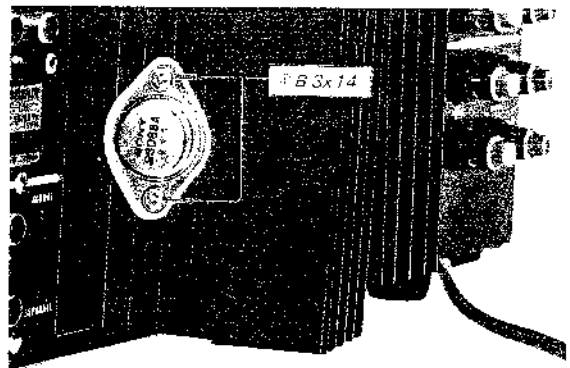

Fig. 2-9 Power transistor removal
4. Carefully draw back the pair of heat sinks, and then remove the two screws (# B 3x14) and nuts securing the power transistor to the heat sink. See Fig. 2-9.